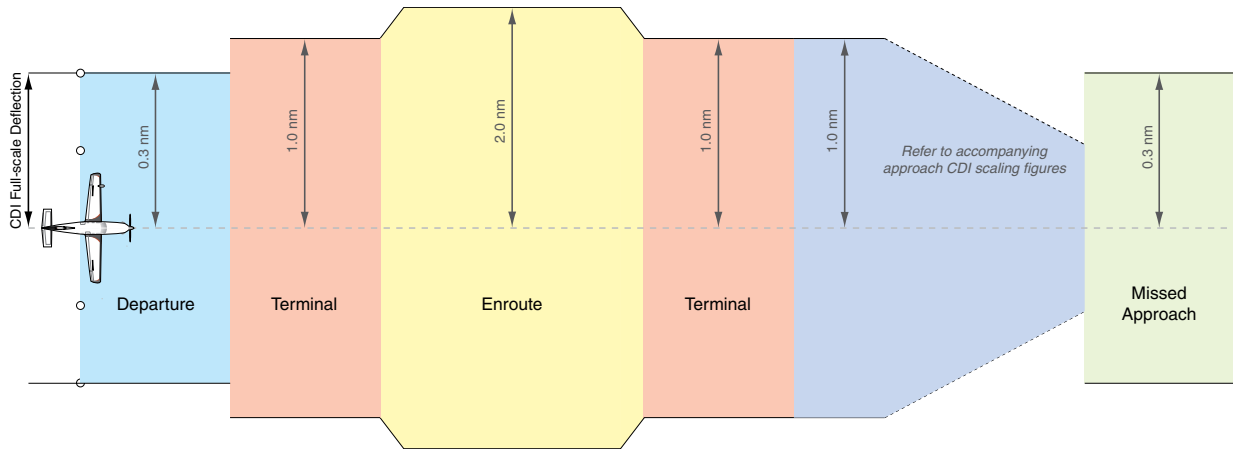

Figure 2-32 Automatic CDI Scaling
- During **approach**, the CDI scale ramps down even further (see Figures 2-32 and 2-33). This transition normally occurs within 2.0 nm of the final approach fix (FAF). The CDI switches to approach scaling automatically once the approach procedure is activated or if Vector-to-Final (VTF) is selected.